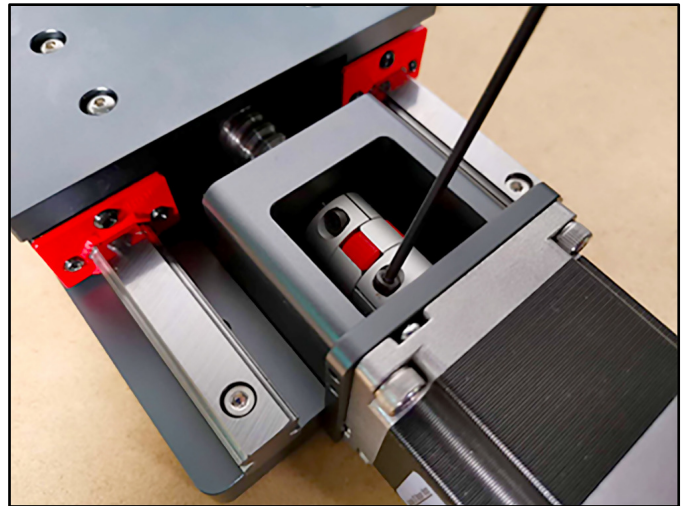

Figure 5
3. Slide your motor shaft onto the coupler and secure it using four (4) of the M5 x 10mm screws. Tighten the screws in a cross pattern. See **Figure 5**.